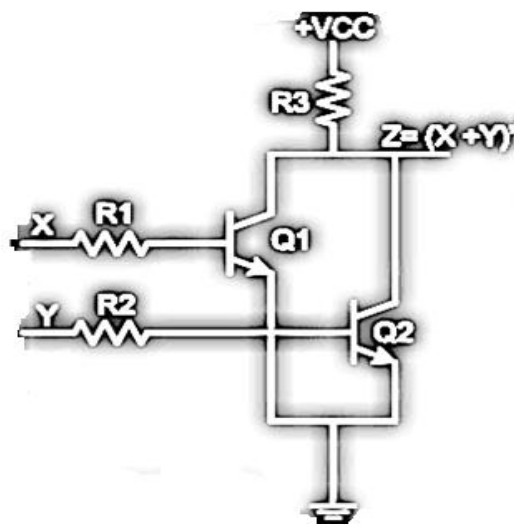

Figure 1.5: 2-input RTL NOR gate
- RTL circuits consist of resistors and transistors. The figure 1.5 shows the 2-input RTL NOR gate.